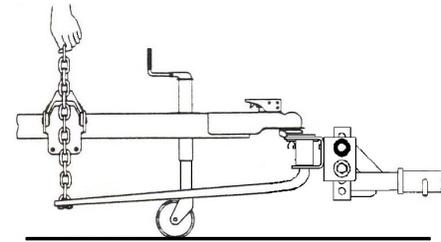

Figure 7
10. Position snap-up brackets on trailer "A" frame. Hold spring bar chain vertical. Center snap-up brackets with chain. (See figure 7)
1. With snap-up bracket in raised position, pull straight up firmly on spring bar chain. Note which link is closest to chain hook (See figure 7). Countdown (2) links and that link will be used for hook up.